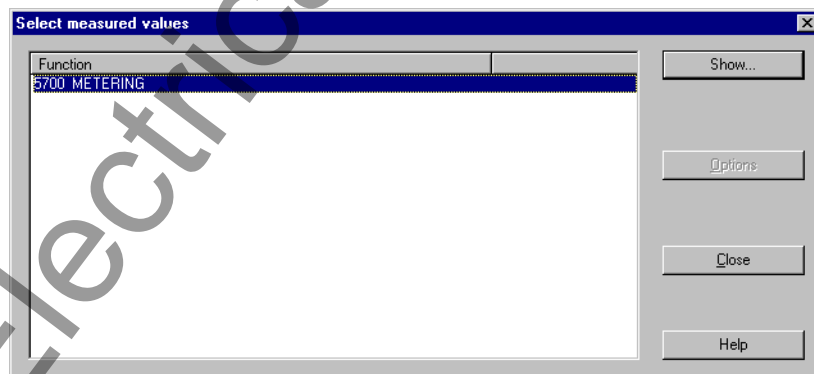

Figure 6-9 Select measured values window in DIGSI
- ❑ Double-click **Measurement** in the function selection. The Select measured values window opens (Figure 6-9, page 214).